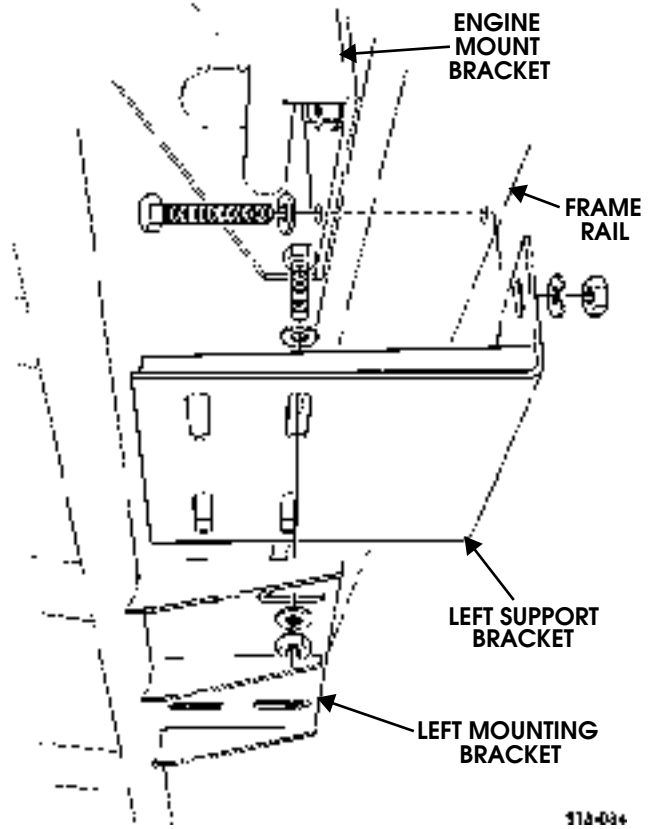

Figure 13-35: Left Support Bracket
2. Remove locknut, washer, capscrew, and washer securing left support bracket to engine mount bracket and frame rail. Discard locknut (Figure 13-35).
4. Install left support bracket on left mounting bracket with four washers, bolts, washers, and locknuts. Do not tighten locknuts (Figure 13-35).